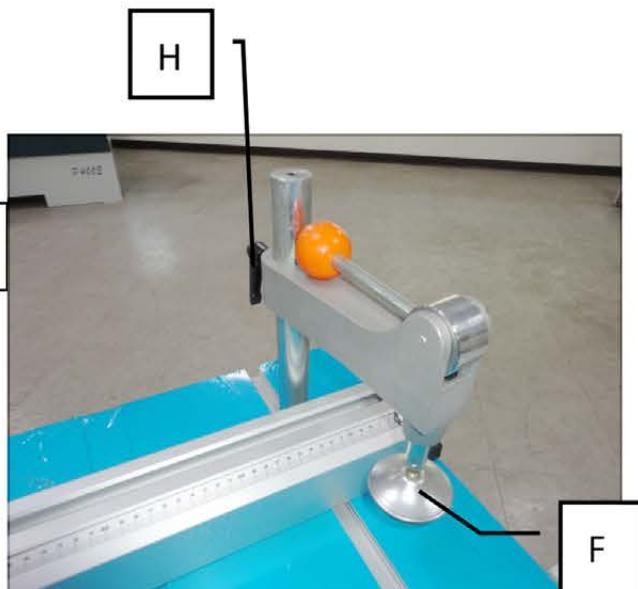

Figure 4-5.2
2. By means of lever H(Fig. 4-5.2) lower foot F(Fig. 4-5.2) for clamping the work piece